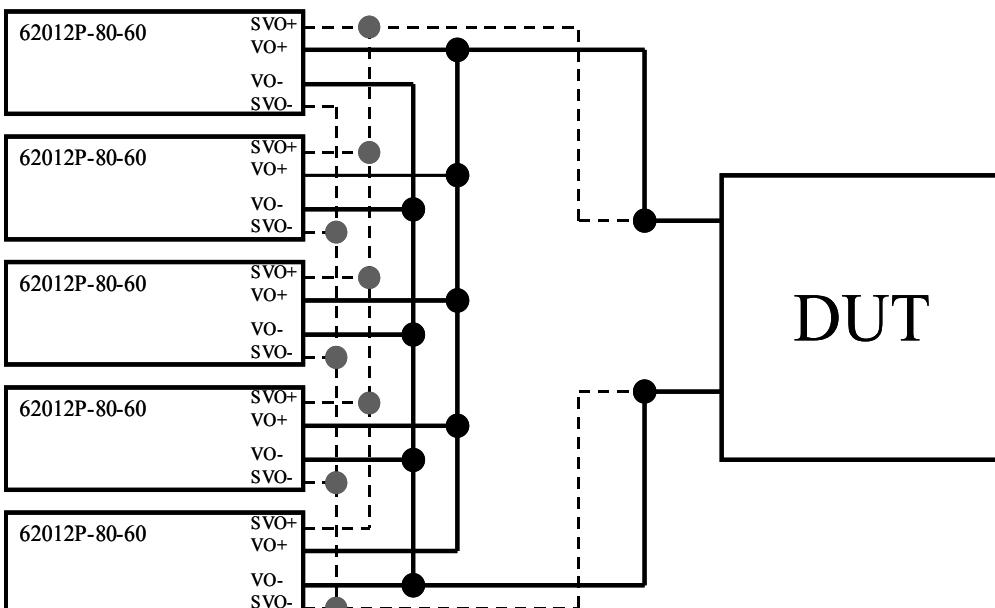
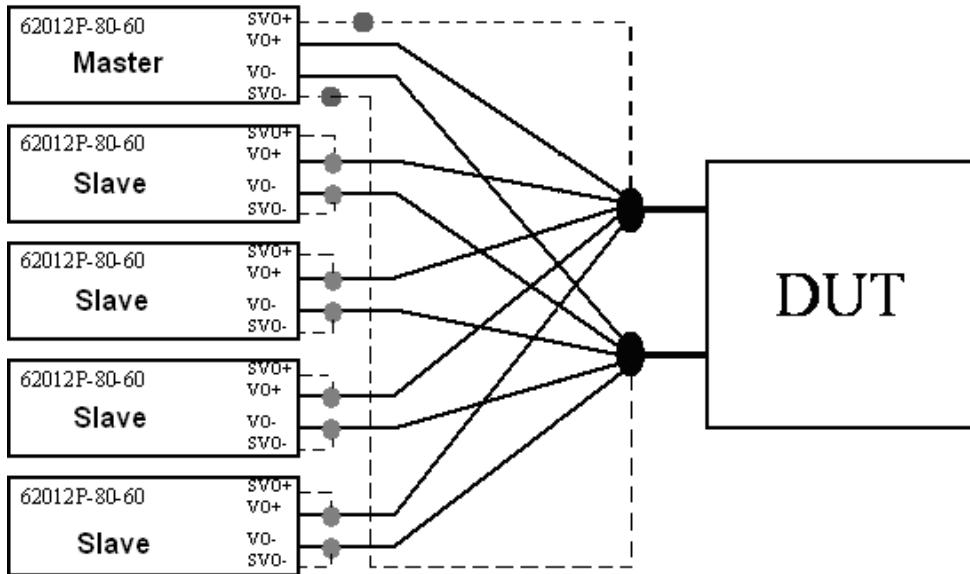

Figure 3-29
Figure 3-30
2. Figure 3-29 shows the parallel connections. For the 62006P-30-80, 62012P-40-120 and 62024P-40-120 models, use the connections shown in Figure 3-30.